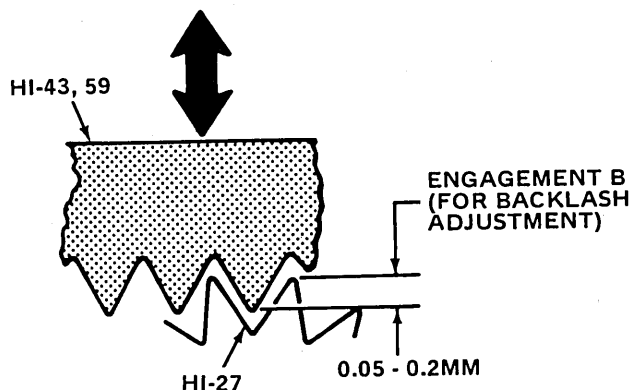

Figure 5-15. BACKLASH ADJUSTMENT, BEVEL GEAR (HI-43, 59)
When performing the next two steps, adjust one set of gears for proper backlash, then move ribbon reversing rod (HI-92) in opposite direction (to engage gears) and adjust the other set of gears (HI-27, 43) or (HI-27, 59), repeating steps B1 through B2. (See Figure 5-15).
2. Adjust bevel gear up or down on ribbon spool shaft (HI-38, 57) to obtain a vertical adjustment (engagement B) of 0.05 to 0.2 millimeters (0.002-0.008-in.) between the teeth of the opposing gears (HI-27) as they mesh (See Figure 5-15). Tighten allen-head screws on bevel gear (HI-43, 59).